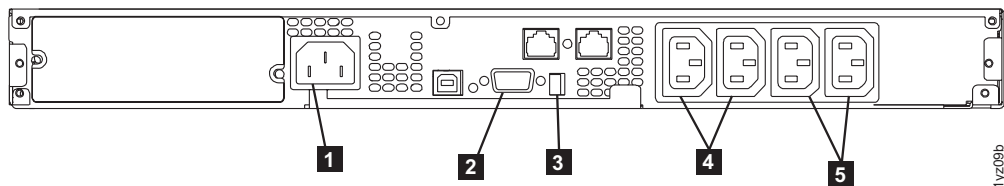

Figure 146. 2145 UPS-1U (rear view)
9. At the back of the 2145 UPS-1U, install the power cable retainer (if applicable) before reconnecting the SAN Volume Controller power cable to load segment 2 receptacle **5**. See Figure 146.
10. Reconnect the signal cable to the communication port **2**. See Figure 146.
The 2145 UPS-1U is now in standby mode with the SAN Volume Controller offline. All indicators that are shown in Figure 146 are off.